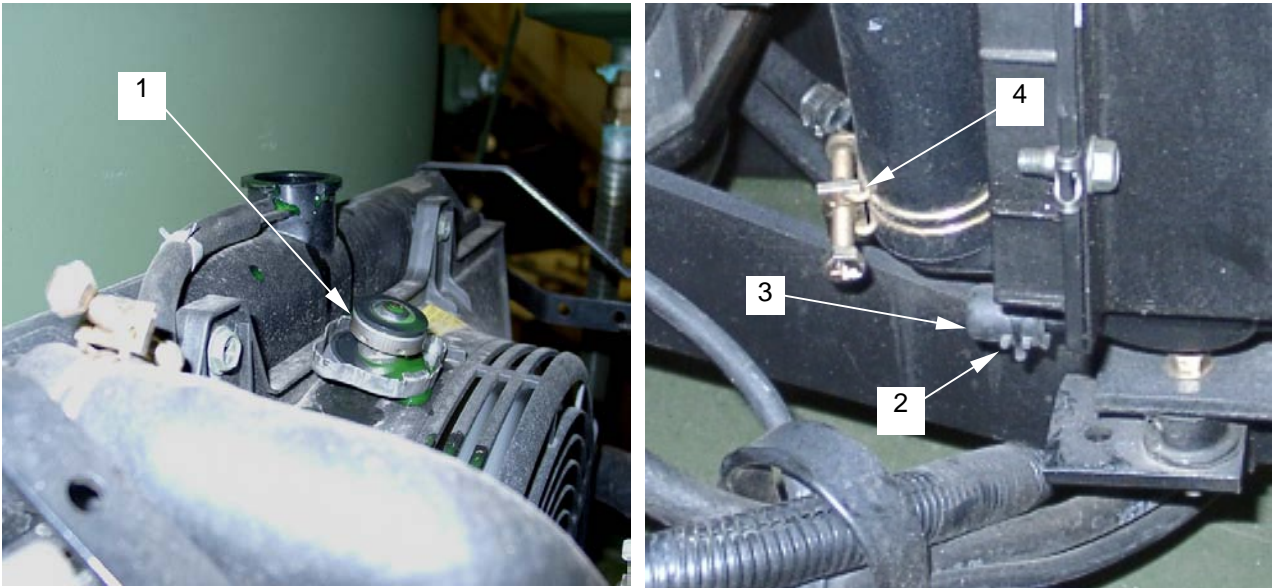

Figure 27. Radiator Fill And Drain
- a. Remove the radiator cap (**figure 27, item 1**).
- b. Loosen and remove the drain plug hose clamp (**figure 27, item 2**) and drain plug (**figure 27, item 3**) on the radiator and drain the coolant into an approved container.
- e. Loosen and remove lower radiator hose clamp (**figure 27, item 4**). Remove lower radiator hose.